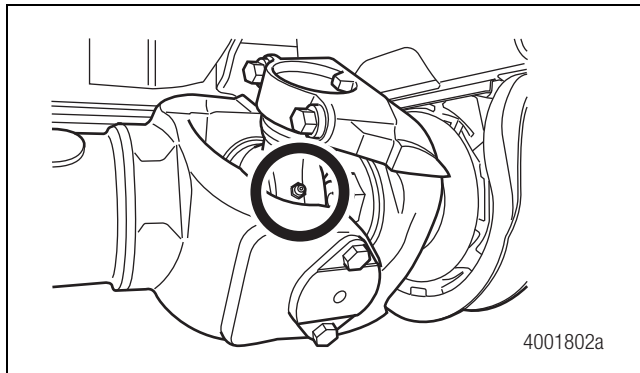

Figure 12.4
1. Check that all grease fittings are installed. Replace missing or damaged fittings. Tighten them to 6 lb-ft (8 N•m). Figure 12.4.